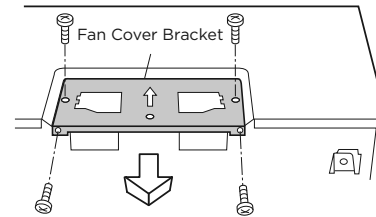

Figure 12
- Remove and save the 4 screws from the Fan Cover Bracket. Remove Fan Cover Bracket by sliding it in the opposite direction of the arrow on the Fan Cover Bracket as shown in Figure 12.